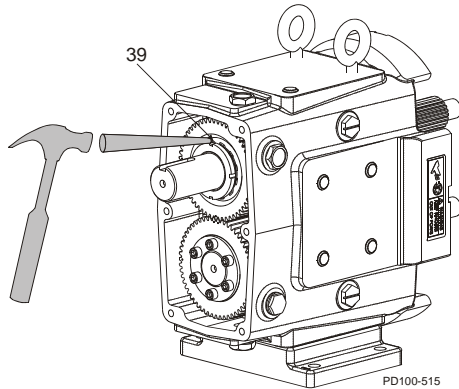

Figure 36 - Straighten Lock Tab on Lock Washer
3. Pull the cover (item 4) off the shaft extension. If the cover sticks, use a soft hammer to loosen it.
4. Remove the silicone sealant (item 25) from the gear case and cover.
5. Using an arbor press, remove the oil seal (item 12) from the cover. Discard the used oil seal.
6. Straighten the tab on the lock washer (Figure 36, item 39).